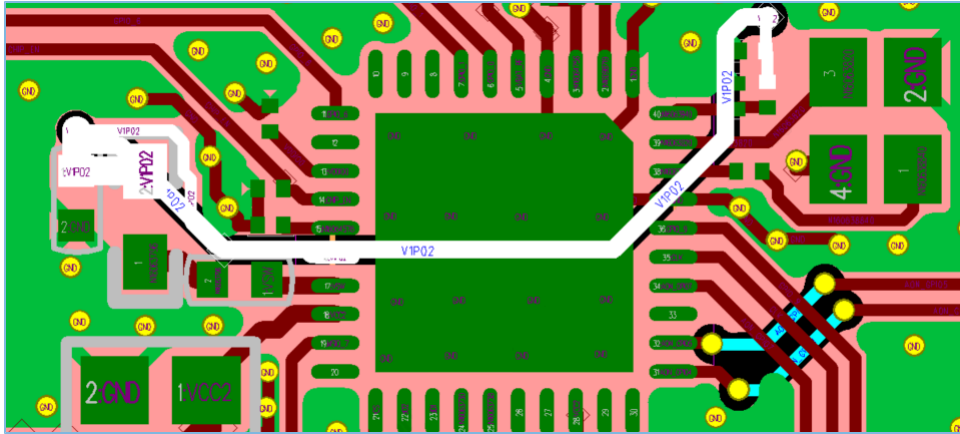

Figure 3-15 Reference layout and routing for RF input power supply
- Avoid connecting the VREG network to the VDD\_RF pin by routing through the RF routing reference layer. Instead, it is recommended to pass through the EPAD projection area, as shown in Figure 3-15.